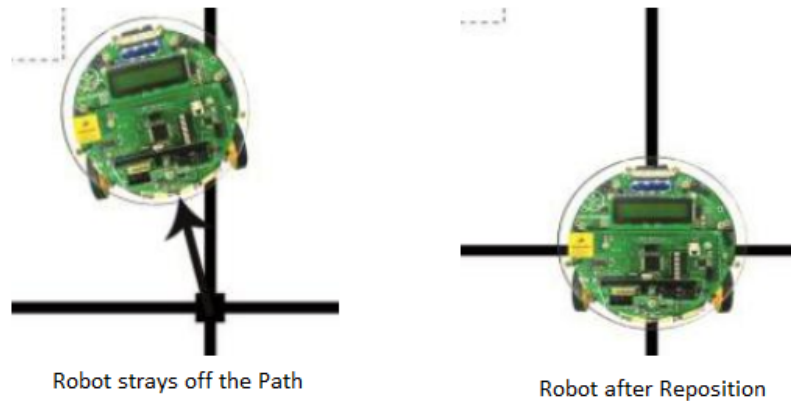

Figure 6: Repositioning
- a) **Resposition:** Suppose SM Bot strays away from the path, an e-Yantra team member will place it just ahead of the previous Node which was traversed properly, on the request of the team and approval of the e-Yantra reviewers. This is called Resposition (Refer Figure 6):